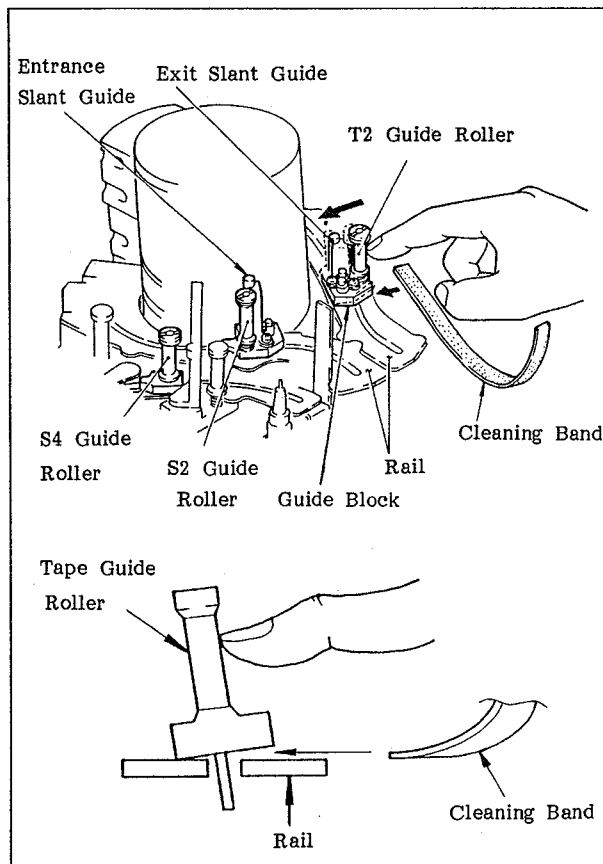

Fig. 5-10 Cleaning the Slider Guide Blocks (1)
3. Push the S2, T2, and S4 guide rollers of the guide block lightly, as shown in fig. 5-10, to insert a cleaning band between the rail and the guide block.